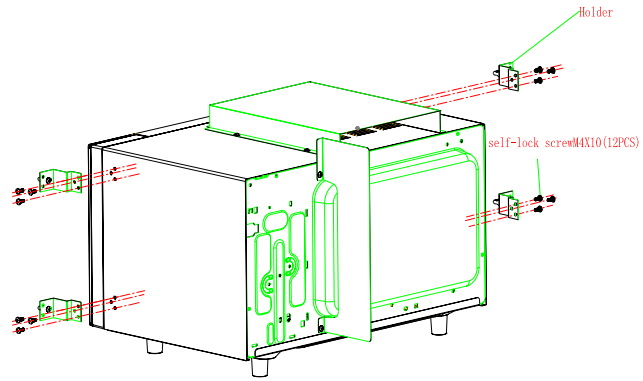

Fig.2
b) Secure holders onto each side housing with self-lock screws, as shown in Fig.2